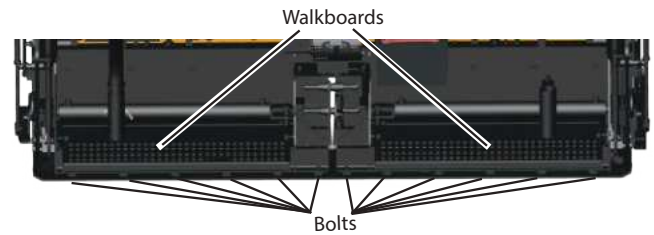

Figure 5-32. Wear Plate Mounting Bolts
3. Remove all the bolts holding the wear plate to the screed frame on each side. **(Figure 5-32)**